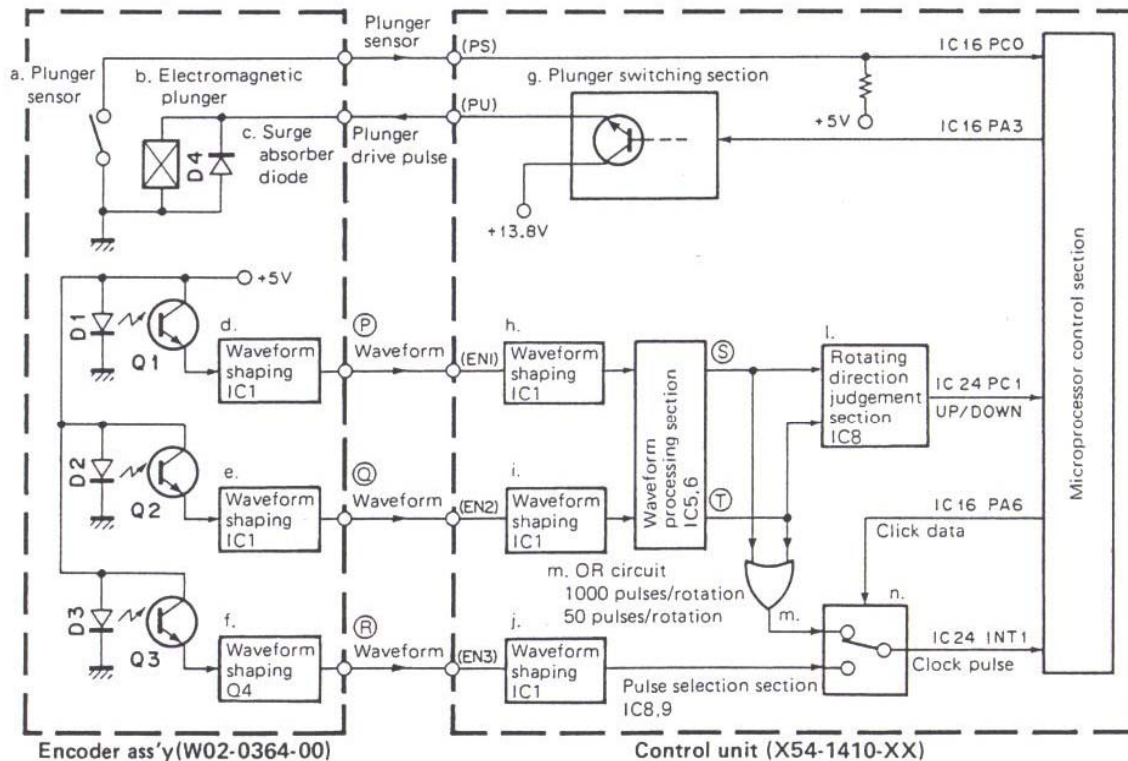
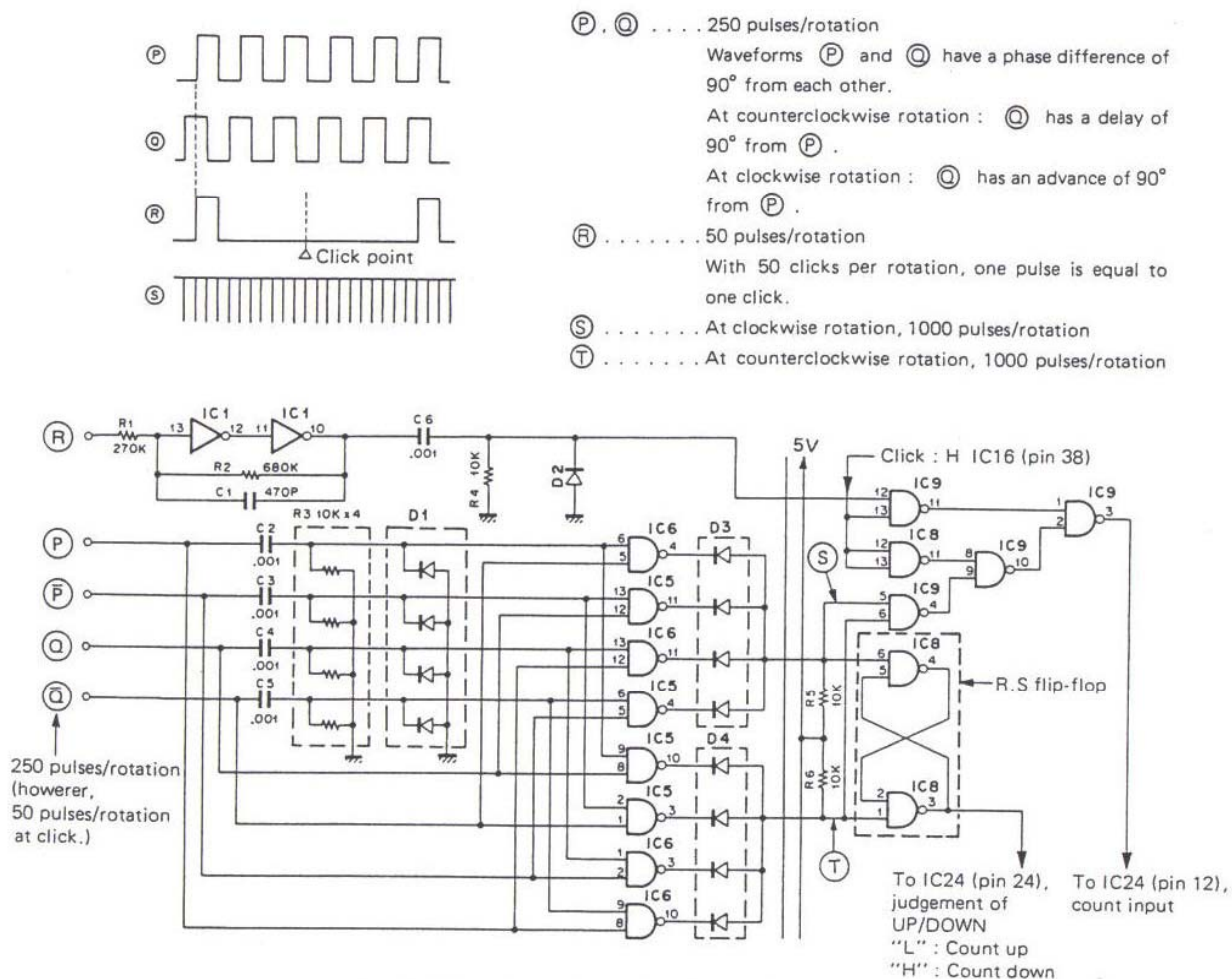

Fig. 12 Configuration of encoder processing section
Fig. 13 Output waveform of main encoder
Fig. 12 shows the configuration of the encoder section. The control pulse of the main dial "click" detent mechanism is as shown in Fig.13. When operating the [CH.Q], [CS], [VFO/M], [M→V], [SELECT], etc., keys, the CPU performs its associated process, judges whether or not the dial is detented, and inputs the status signal of the sensor (pin PS) to IC16 PCO (pin 14). For example, when the dial detent is activated, as when the dial is already detented when pin PS is "H", the process ends. However, when pin PS is "L", a 100msec pulse is emitted from PA3 IC16 pin 17, thereupon the plunger drive pulse (PN) is emitted through the switching operation of Q12 : DTC143T(S), Q13 : 2SC2459(Y) or Q14 : 2SA1307(Y).